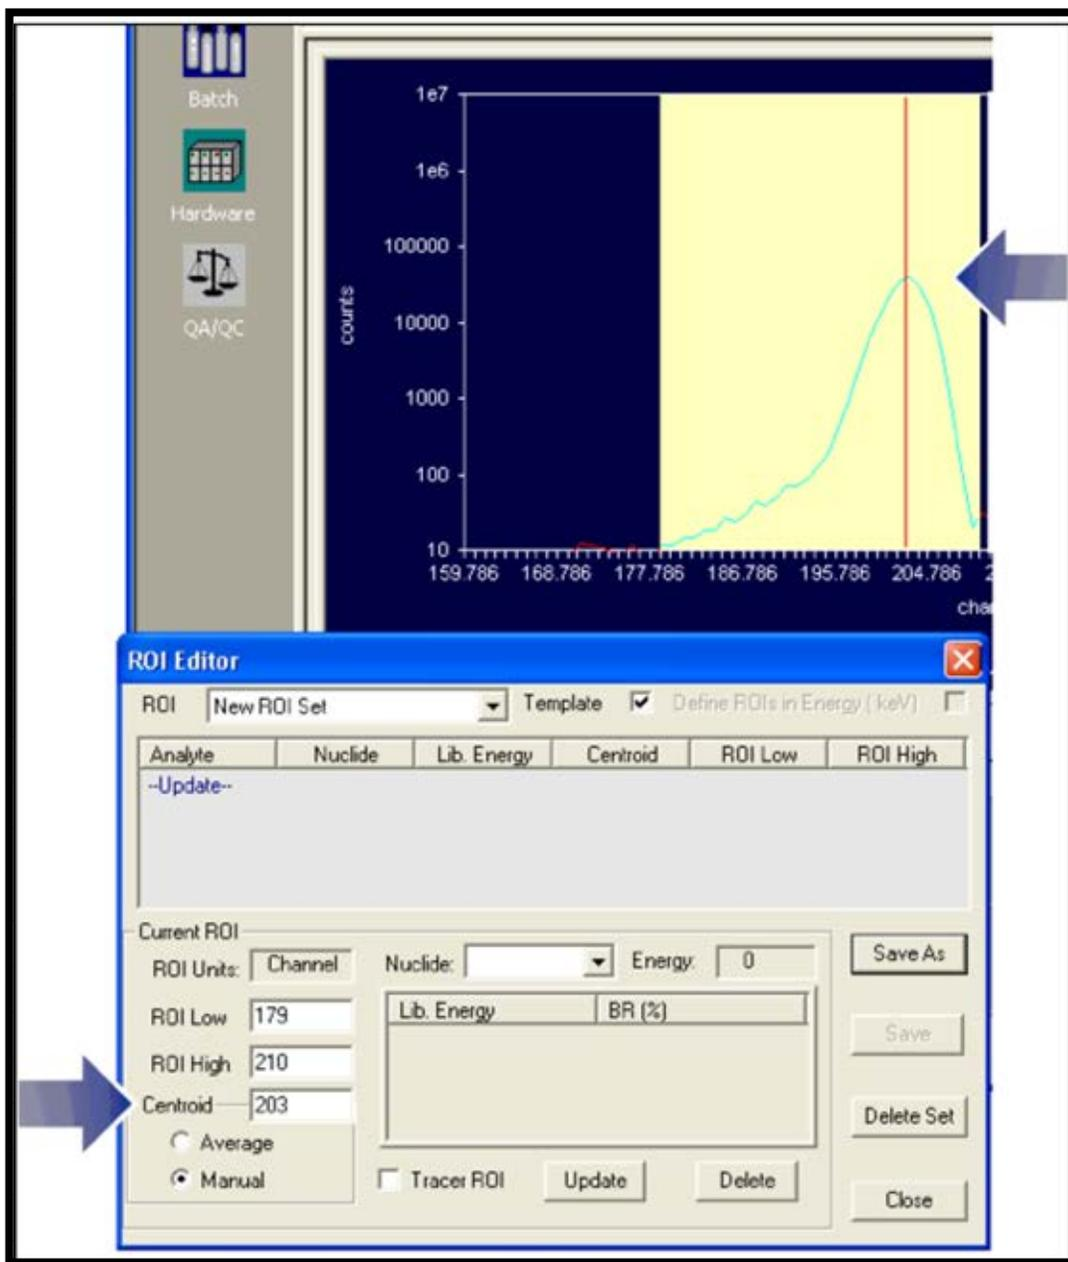

Figure 161. Click to Mark the Centroid Channel or Enter with Keyboard
- e. Next, use the mouse to manually mark the peak **Centroid**. In the Spectrum Window, locate the peak centroid and click it once. The channel clicked will automatically be entered in the **Centroid** field (Figure 161); in this example, the centroid is at channel 203. (If the intended channel is missed, click again as often as desired until satisfied with the position, or enter it from the keyboard.)